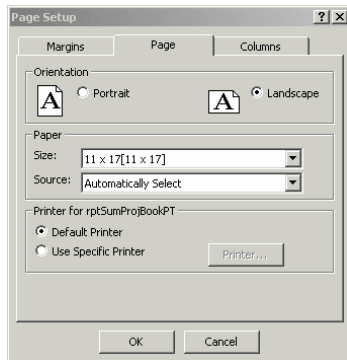

Figure 29 – Perforated Tube Project Book Page Setup
3. Select the **Page** tab and set the page settings as shown in Figure 29. The 11 x 17 paper size option may not be available on your printer (it may be called Tabloid or something else.) Choose the paper size that represents an 11 x 17 paper size.